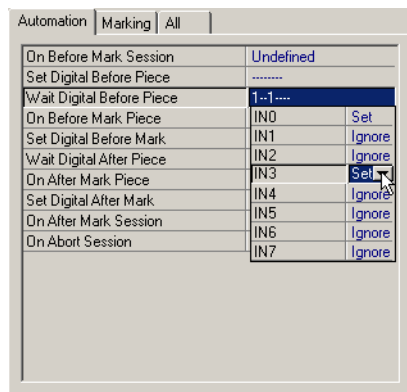

Figure 11-1 Start Mark/FASI automation setup
- 1 Configure WinMark's Wait Digital Before Piece command (on the *Drawing's Automation* tab) to wait for a "Set" state on input *IN3* before marking begins. This synchronizes marking operation with the FASI safety feature. Normally, input *INO* will all ready have been "Set" in order to wait for the 'start mark' signal. See Figure 11-1.